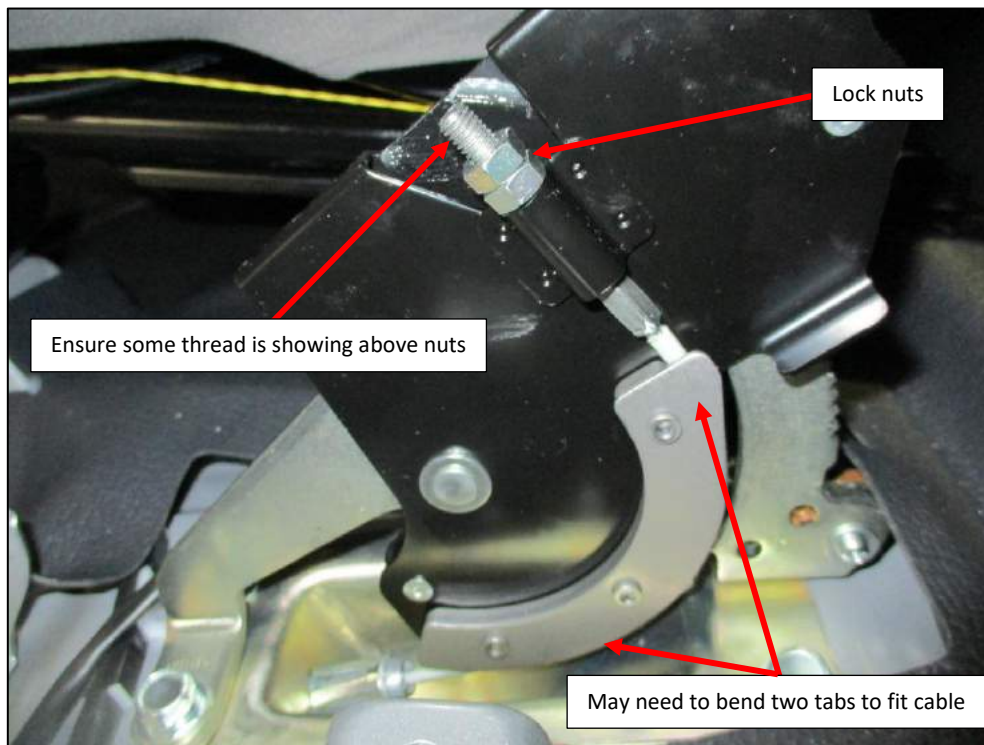

Figure 44
34. Attach the cabin cable to the parking brake control lever as per the OEM cable (Figure 44). The tabs on the cable guide will need to be bent back after fitting the cable in original position. This must be done prior to securing the handbrake to the floor. Ensure some thread is showing above the 2 locknuts do not tighten and do not fit the console.